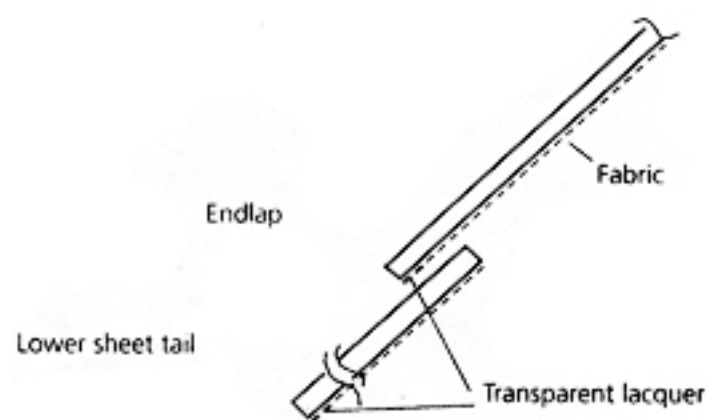

Figure 2. Painting with transparent lacquer
- Lower sheet tails and the topsheet at endlaps should be painted with a transparent impregnating liquid or alkyd lacquer. See fig. 2